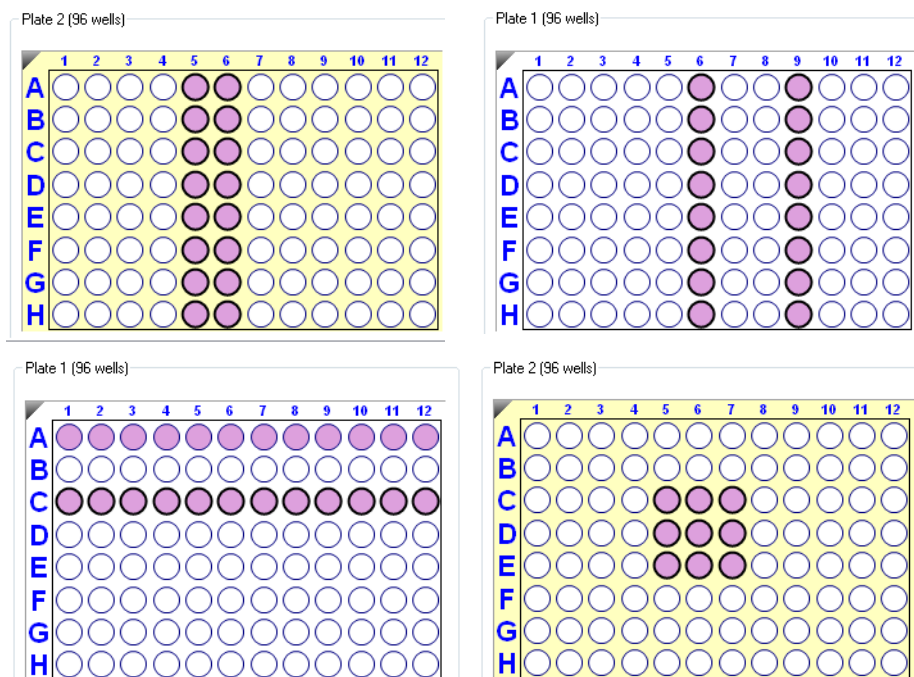

Figure 10-68: Selecting Sample Wells in a Plate Map
- Click a column header or select adjacent column headers by click-hold-drag (Figure 10-68, top left).
- To select non-adjacent columns, hold the **Ctrl key** and click the column header (Figure 10-68, top right).
- Click a row header or select adjacent row headers by click-hold-drag (Figure 10-68, bottom left).
- Click a well or draw a box around a group of wells (Figure 10-68, bottom right).